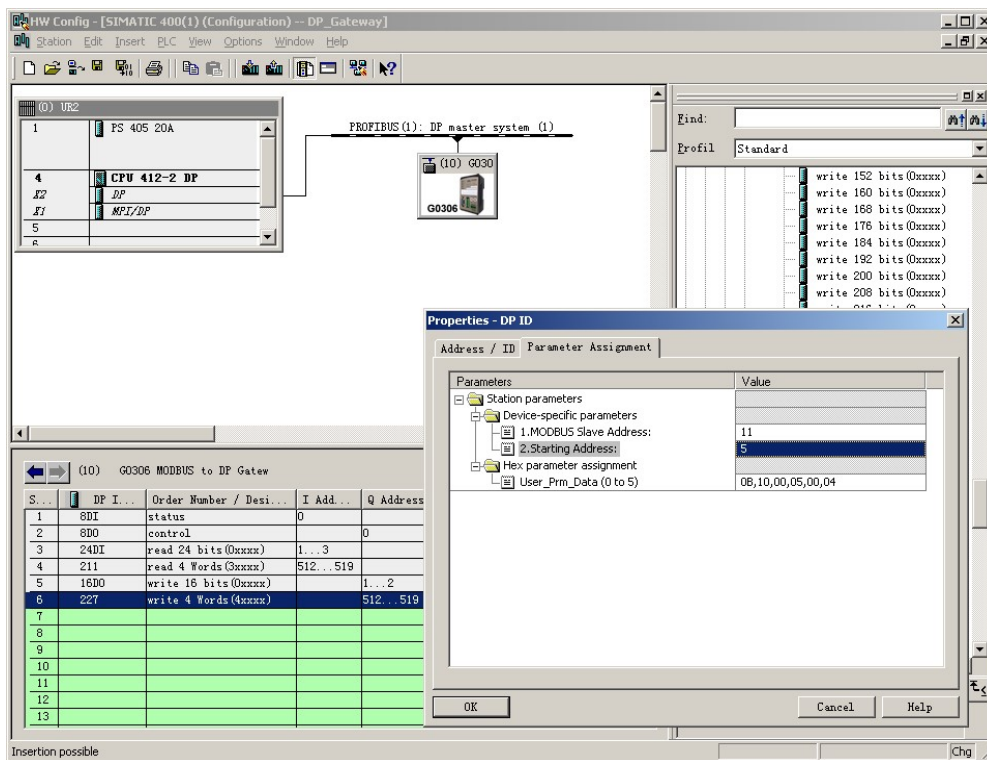

Figure 26 Configure user parameters of the "write 4 Words(4xxxx)" module
b) Configure the user parameters of the "write 4 Words(4xxxx)" module, as shown in Figure 26:
"1.MODBUS Slave Address:" ⇒ Type in Modbus slave address 11, as shown in Figure 26.
"2.Starting Address:" ⇒ Type in the starting address 0006 of register 0xxxx to be written, and set the address to 5 ⇒ "OK", Figure 26.